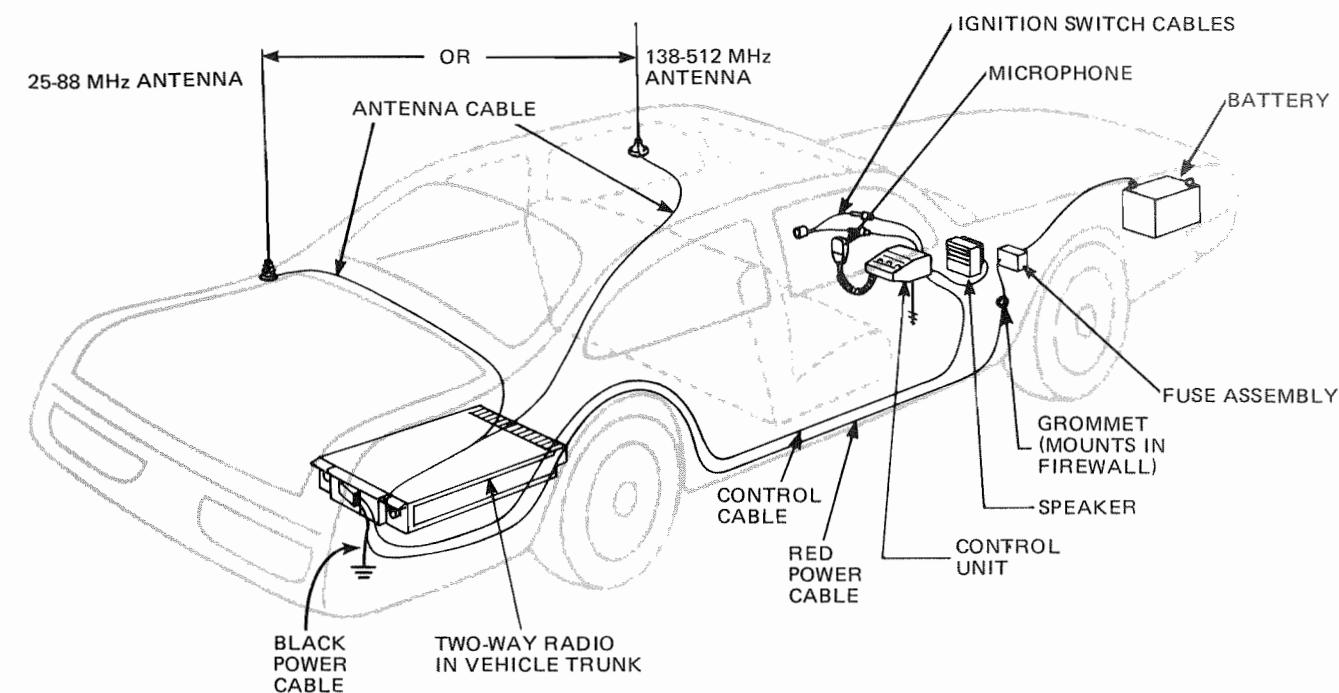

Figure 4. Cable Routing
If an existing hole is not conveniently located for the passage of the Power Cable through the firewall, drill a 1-1/8-inch hole and insert the rubber grommet provided. Leave at least 18 inches of slack in the plug end of the cables at the location for the Two-Way Radio. Refer to the Cable Routing Diagram (Figure 4) for additional information.
1. The Power/Control Cable plug assembly is supplied connected for negative ground systems. Starting with the plug end of the Power/Control Cable, run the black control cable to the control unit location and the red power cable to the vicinity of the battery. Drill a No. 9 (3/16-inch) pilot hole and connect the short black power cable to a good vehicle ground with the 1/4 x 5/8-inch hex-head self-tapping screw and the two external tooth lock washers. The external tooth lock washers are placed on each side of the black power cable ring terminal. Refer to the Cabling Routing Diagram (Figure 4).